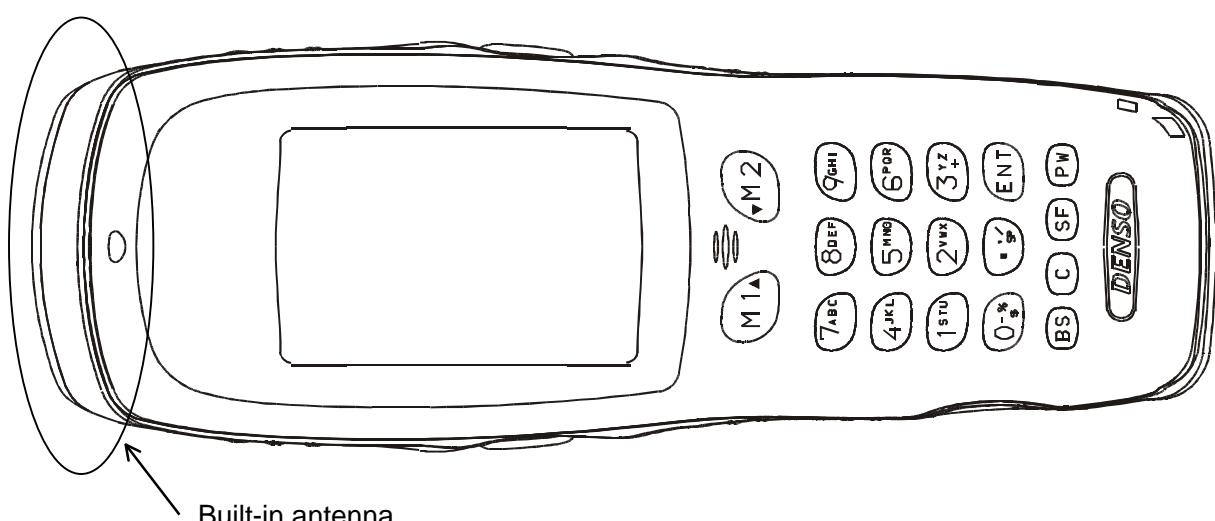

Figure 3. Built-in antenna section
- (1) Make sure that the intended environment is free of the interference factors and actually capable of supporting link operation.
- (2) Do not cover the antenna section by hand.(figure 3.)